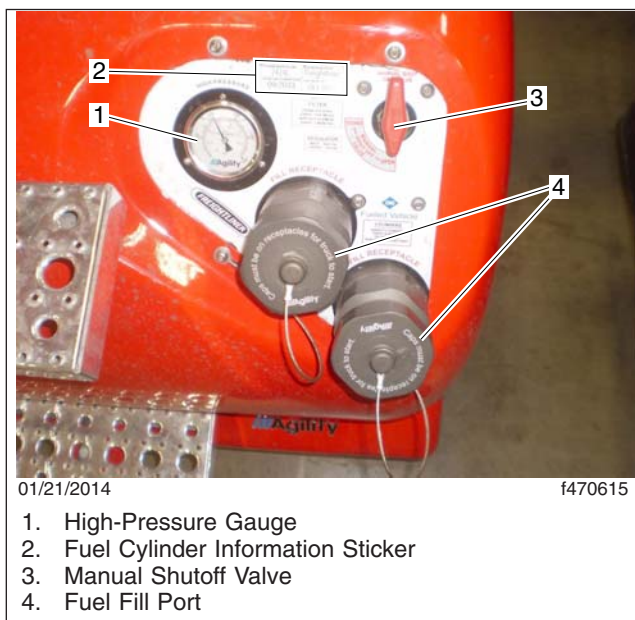
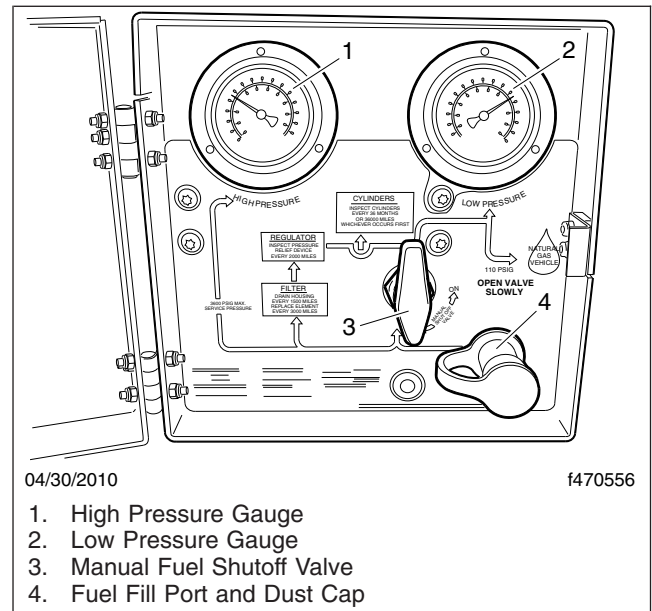

Fig. 25.2, CNG Fuel Cylinder Fill Panel (side tank shown)
Fig. 25.3, CNG Under Cabinet Fuel Panel (under cabinet shown)
NOTE: If the fuel system has only back of cab tanks, the fuel fill is located behind the fuel access panel on the lower part of the cabinet, or below the tank cabinet in a separate box. If truck has saddle mount tanks, the fuel panel is located on the back end of the left side tank. Vehicles with back-of-cab cabinets and saddle tanks are have the fuel fill panel on the back end of the left side tank. See Fig. 25.2 for side tanks, or Fig. 25.3 for back-of-cab cabinet mounted fuel panel.
2. Ensure all fuel cylinder shutoff valves are open. See Fig. 25.2.